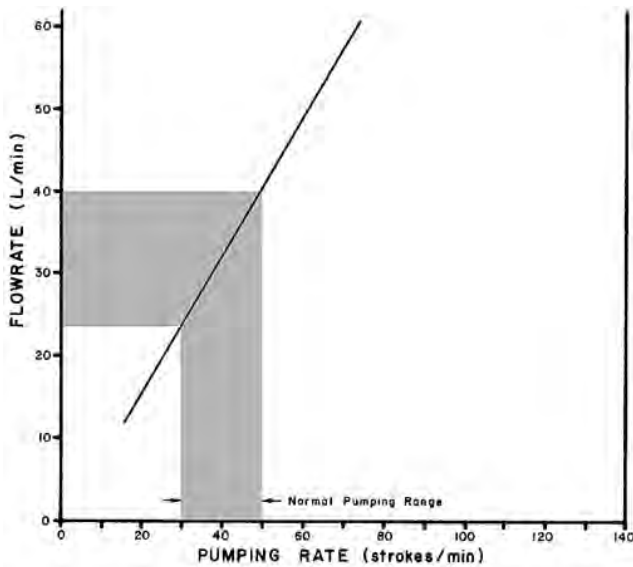

FIGURE 2. Flowrate with Diesel Fuel at Zero Suction and Discharge Heads.
**Flowrate:** Pump performance characteristics with diesel fuel at zero suction and discharge heads are given in FIGURE 2. Suction head is the distance the fuel level is below the pump intake valves and discharge head is the height the outlet nozzle is held above the pump.